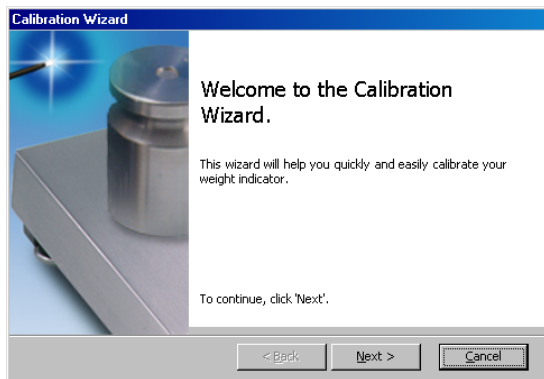

Figure 4-3. Revolution Calibration Wizard
2. Revolution uploads calibration data from the indicator then presents the information in a display like that shown in Figure 4-3.